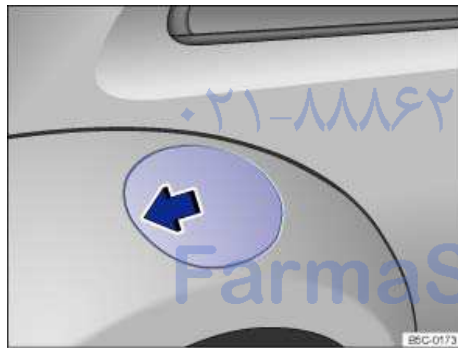

Fig. 138 Right rear side of the vehicle: Opening the fuel filler flap.
- Press on the back part of the fuel filler flap and fold open ⇒ fig. 138 (arrow).